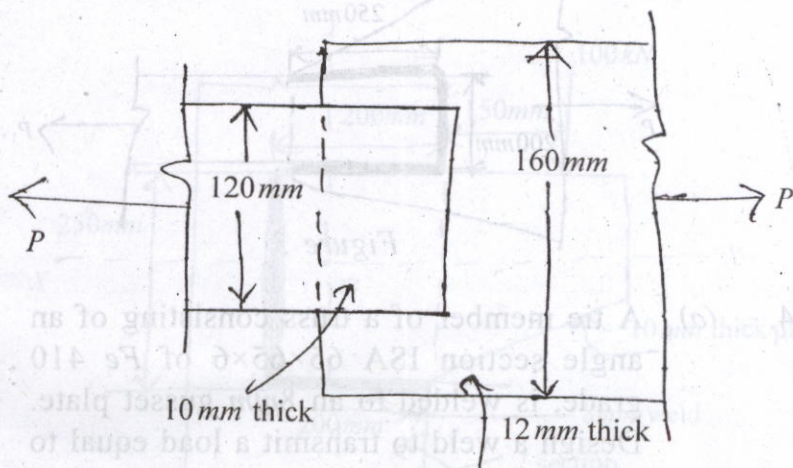

Fig. 2
3. (a) Design a longitudinal and transverse fillet weld to connect two plates as shown in Fig. 2 to transmit a pull equal to the full strength of the thinner plate. 12